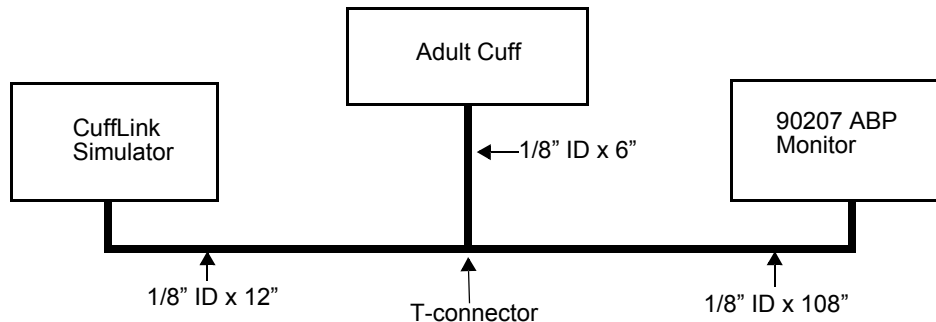

Figure 4-12: Test connection
- 3 Connect the unit under test to the simulator, as illustrated in *Figure 4-12*.